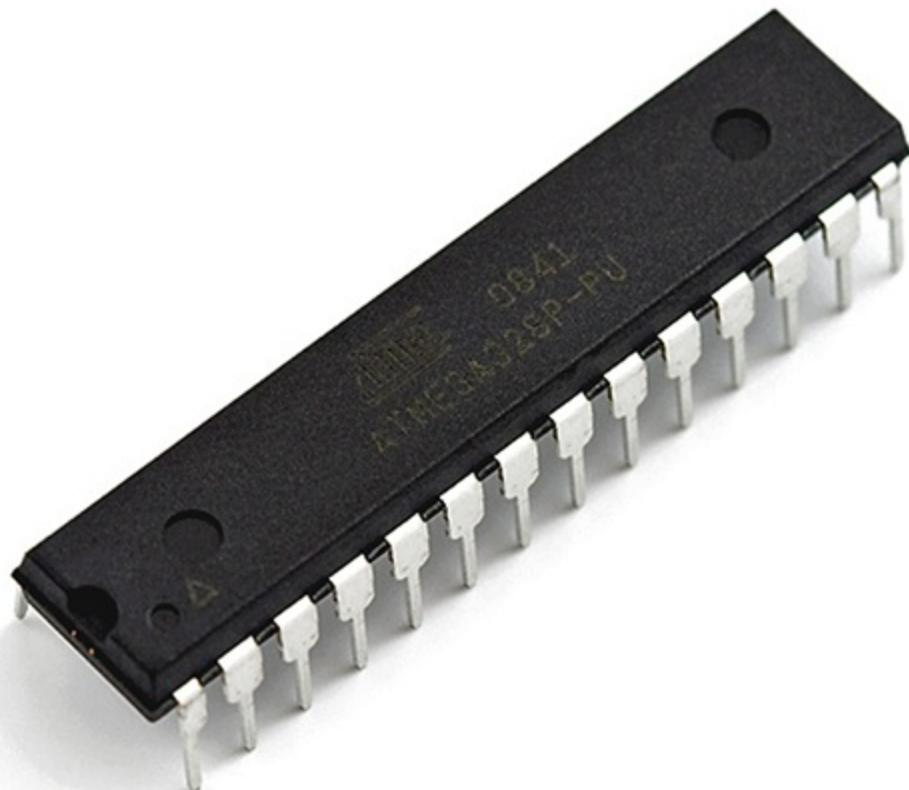

Figure 1-2: The Arduino's brain, an ATmega328 microcontroller.
tiny spaces like a project box. How small are microcontrollers? Physically, the one on the Arduino is about as large as they come, about half the size of a pack of gum, as you can see in Figure 1-2. The microcontroller is the rectangular *integrated circuit (IC)* on the blue *printed circuit board (PCB)*. It's that size because it's easy to handle with your fingers, so you can replace the microcontroller on your Arduino if it croaks for some reason. But microcontrollers start about this large and go down from there, all the way to the microscopic level. The main factors that determine their size are their capabilities and cost. In fact, the actual processor *core* on your Arduino chip is much, much smaller than the exterior IC chip itself.
The best part about microcontrollers is that they are inexpensive, unlike their big brothers, the microprocessors in your computer, laptop, tablet, or phone. Microcontrollers are inexpensive because they have limited capabilities (see Figure 1-2). They are mainly designed to control things or otherwise respond to sensory input, and are called *embedded systems*. Bigger computers have more general capabilities and need more power and therefore, cost more, and use *general purpose* microprocessors.